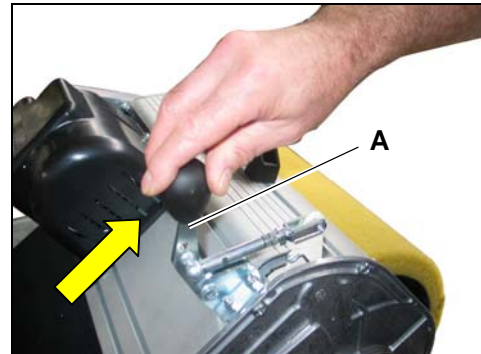

FIG. 2
Shift the lever (A) to its upright position (figure 2).
- shift the lever (A) to its upright position (figure 2 - page 6)
Shift the lever (A) to its upright position (figure 2 – page 6).
After cleaning the tank and filling it with cold and clean water, shift the lever (A) to its upright position to raise the sponge roller off the floor (figure 2 – page 6).
When the machine is in rest position, to prevent the sponge roller warping make sure the latter is raised off the floor and that the lever (A) is in its upright position (figure 2 – page 6).
Shift the lever (A) to its upright position (figure 2 – page. 6).